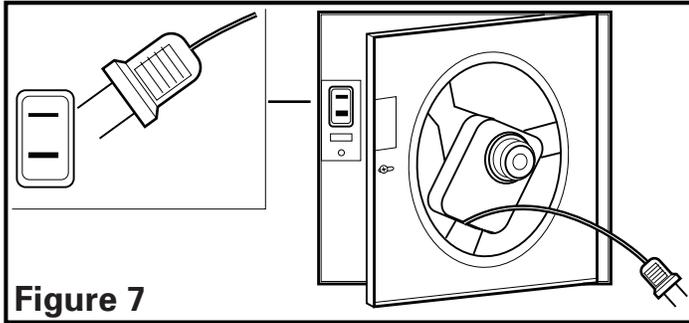

**Figure 6**
2. From where you have access to inside the fan's junction box, connect the White wire from the house to the White wire from the fan's receptacle. Connect the Black wire from the wall switch to the Black wire from the fan's receptacle. Connect the ground wire from the house to the Green wire from the fan's receptacle (**Figure 6**). Use approved methods for all connections.